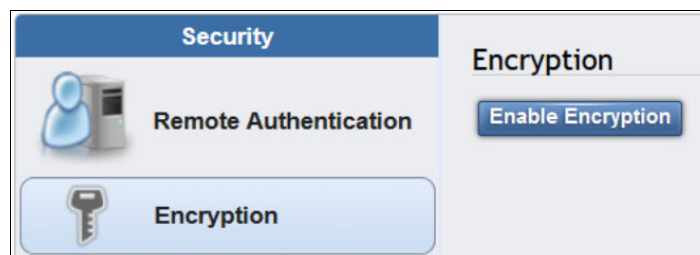

Figure 9-59 Enable Encryption
2. Click **Encryption**, and then click **Enable Encryption** (Figure 9-59).